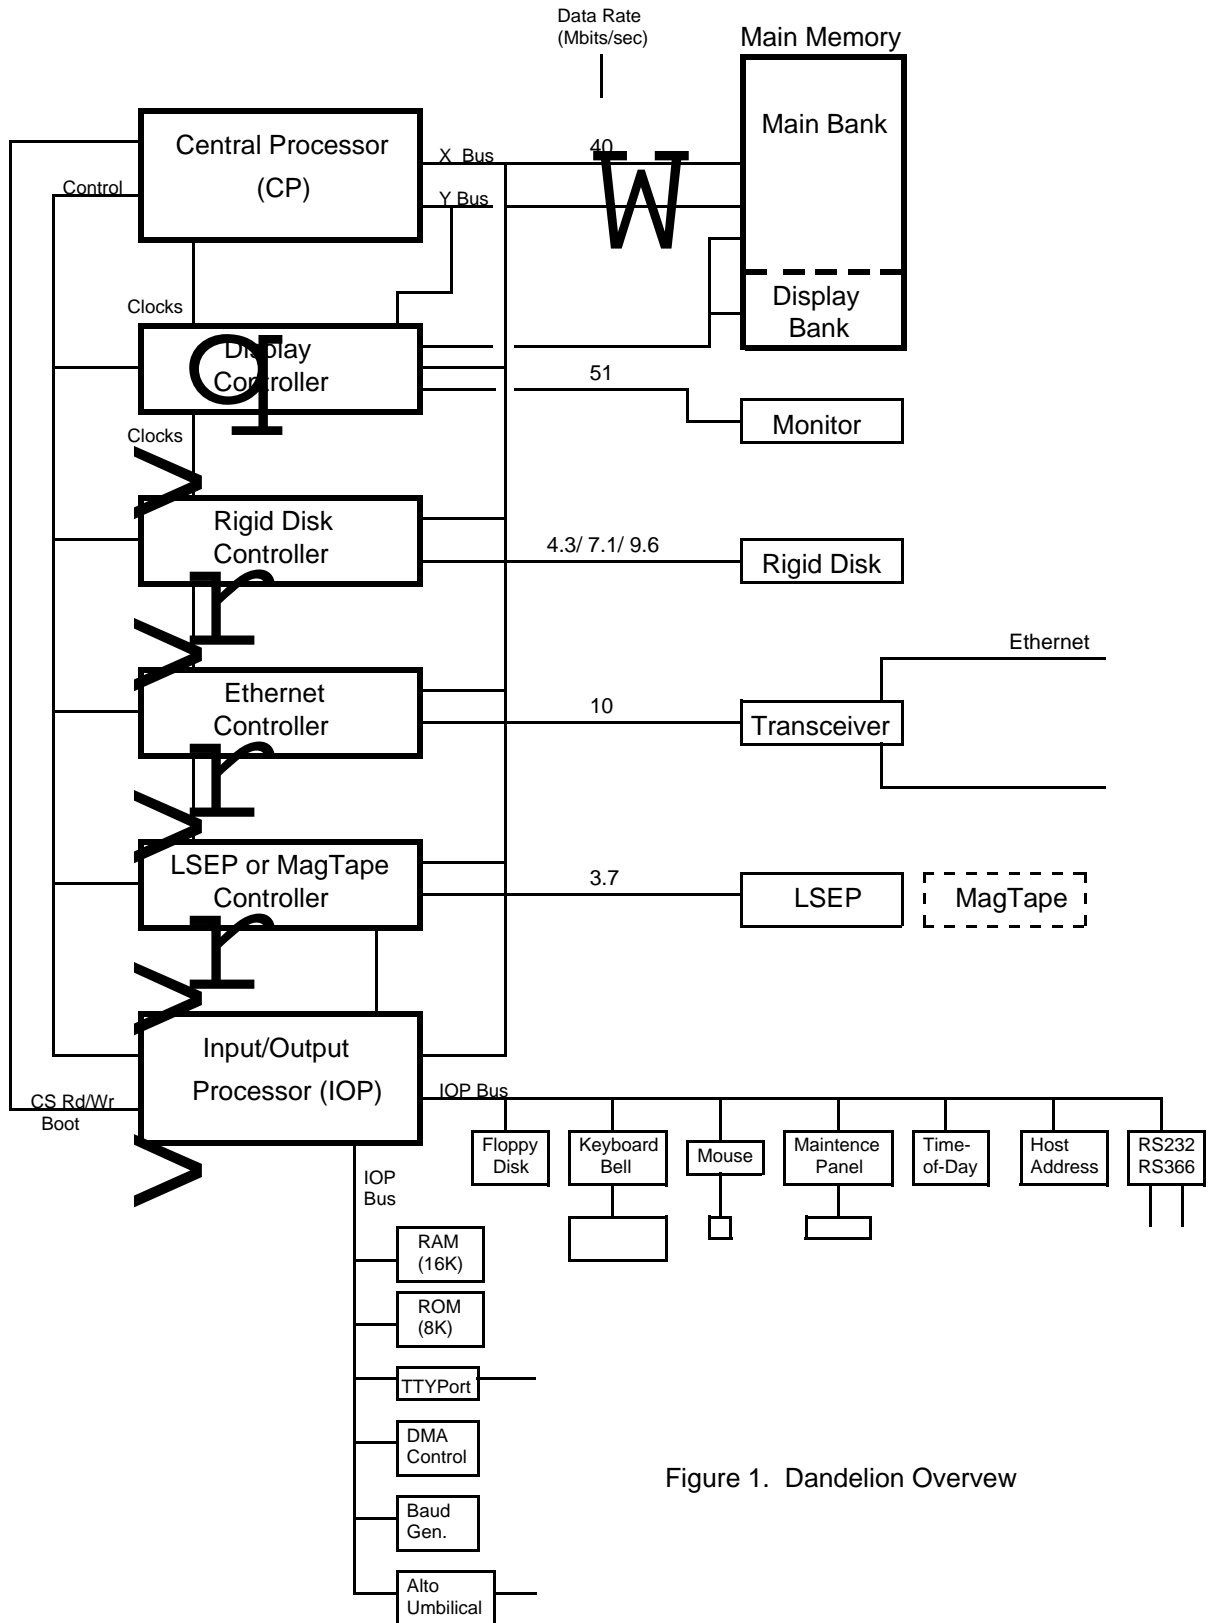

Figure 1. Dandelion Overview
This introductory chapter looks at the major characteristics of each controller and processor in the system. The logical boundaries of the Dandelion are shown in Figure 1. There are two main processors: the Central Processor (CP) and the Input/Output Processor (IOP). The CP controls the high bandwidth peripheral devices and emulates the target language (e.g., Mesa). It is a high performance, microprogrammable processor which has been optimized for cost. The IOP, on the other hand, supervises the lower-speed devices, such as the mouse and keyboard, and controls the booting process. It is also used as a base to run diagnostics. It employs a traditional microprocessor (8085) in an 8-bit bus architecture. To the CP, the IOP appears as another high bandwidth I/O device.